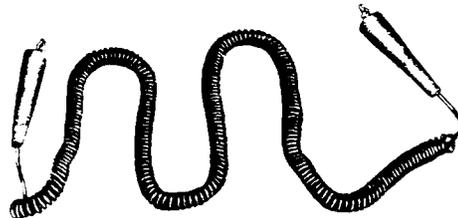

Fig. 5--W1BU Cord
- 3.03 W1BU Ground Cord (Fig. 5): The W1BU ground cord is a black retractile single conductor cord equipped at each end with a Mueller No. 27 clip and a black Mueller No. 29 insulator. The usable length of the cord is approximately 20 feet. The ground cord is used to provide a ground to the conductive end cap when the 188A test set is being used while working aloft.